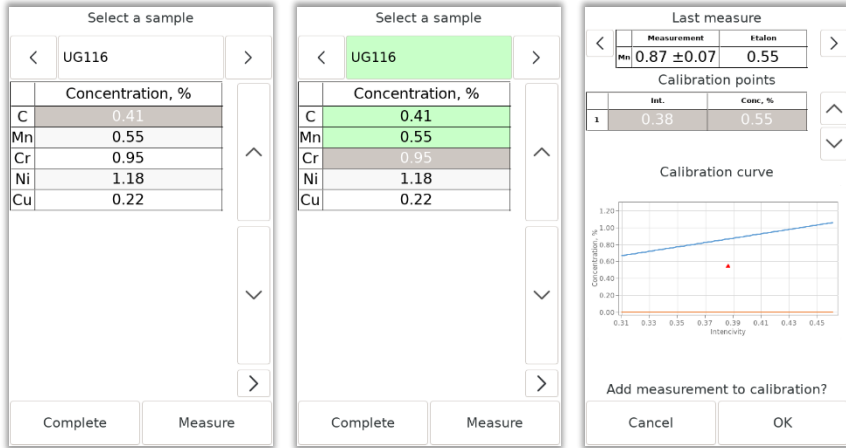

Figure 30 Etalons selection window and viewing the calibration information
4.8.7.2.10. After adding a point to the calibration or removing it, you will be asked to select the next sample. Samples that have been measured for calibration will be highlighted in green. The rows of elements are colored green - these concentrations are saved in the calibration (Figure 30).
4.8.7.2.11. In the etalon selection window for each element you can view the list of points and type of calibration curves. To do this, select the element in the etalon selection window and click the button to view more information (Figure 30).